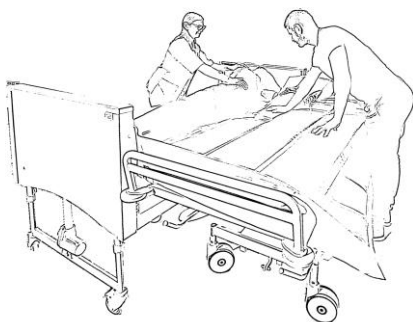

Fig. 2
- 10 The second caregiver will set the desired height and position the Koval shower trolley along the bed (see Figure 2).
- 9 Turn the patient to his/her side, away from the side of the transfer. Make sure the patient is not lying on the Koval shower trolley's mattress (see Figure 2).